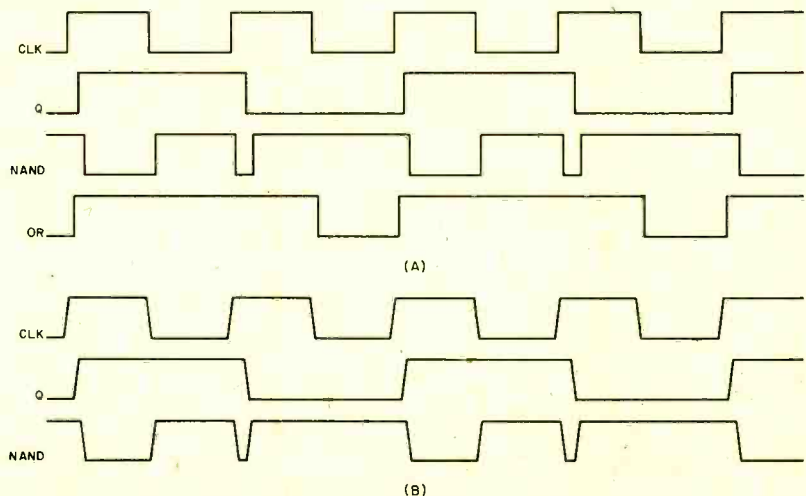
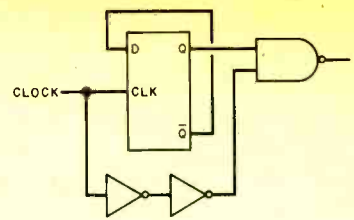

Fig. 5. Expansion of Fig. 4B shows propagation delay.
Fig. 8. Modification of Fig. 4.
1. Glitches are caused by unbalanced propagation delays in the signal path. In theory, the glitch of Fig. 5 could be eliminated by adding a delay in the circuit as shown in Fig. 8. This would require that both inverters and flip-flop have "typical" delay specifications.